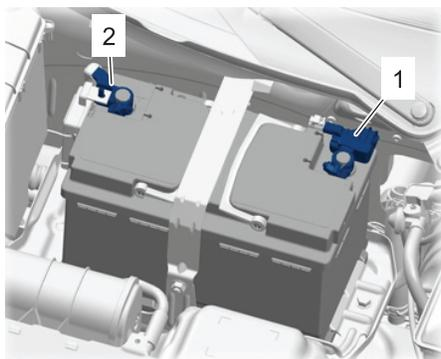

Fig. 5 Battery cable removal
9. Disconnect ground cable (1) from battery, **Fig. 5**.
10. Disconnect positive cable (2) from battery, **Fig. 5**.
4. Connect positive cable (1) to battery and **torque** to 53 inch lbs., **Fig. 5**.
5. Connect ground cable (2) to battery and **torque** to 53 inch lbs., **Fig. 5**.